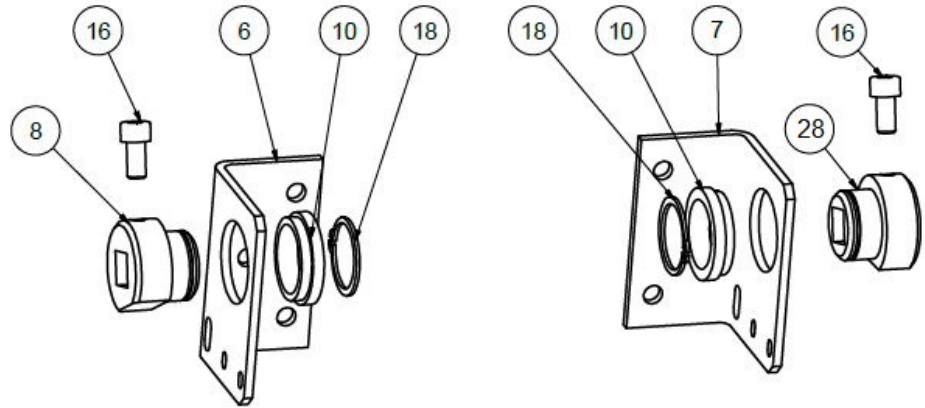

Figure 3
Insert a nylon bushing (10) in each of the base plates, as indicated in Figure 3, then insert the support bushing (8) on the opposite side to the nylon bushing, and join them together by a safety ring (18) using needle nose pliers. Finally, insert a DIN 912 8.8 M8 x 16 screw (16) into each support bushing. See Figure 3.